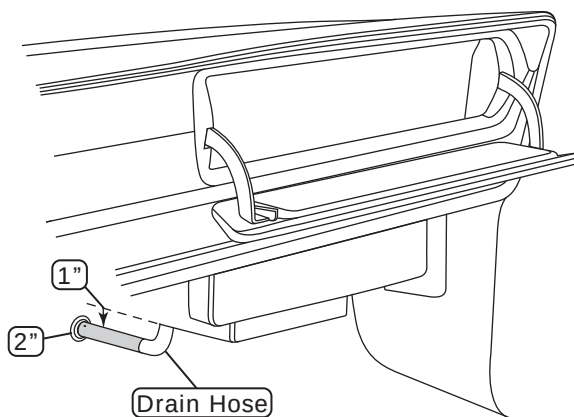

Figure 1
1. Locate the #8 compressor A/C hose. Lubricate (2) #8 O-rings (See Lubricating O-rings, Page 10), and connect the 90° female fitting to the #8 discharge port on the compressor. Then route the straight female fitting with R134a service port to the #8 condenser hardline coming over the core support. Tighten each fitting connection.
2. Locate the #10 compressor A/C hose. Lubricate (2) #10 O-rings (See Lubricating O-rings, Page 10), and connect the 45° fitting to the #10 suction port on the compressor. Then route the 45° female fitting with R134a service port to the #10 hardline on the inner fender cap. Lubricate (2) #10 O-rings (See Lubricating O-rings, Page 10), and connect the 90° female fitting in the wheel well to the #10 hardline on the inner fender cap. Then route the straight female fitting from the inner fender cap to the #10 fitting on the evaporator (See Figure 1a, Page 13 and Figure 1, Page 16). Tighten each fitting connection.
3. Locate the #6 evaporator A/C hose. Lubricate (2) #6 O-rings (See Lubricating O-rings, Page 10), and connect the straight female fitting to the #6 hardline coming over the core support from the drier. Then route the straight female fitting to the #6 hardline on the inner fender cap. Lubricate (2) #6 O-rings (See Lubricating O-rings, Page 10), and connect the 90° female fitting in the wheel well to the #6 hardline on the inner fender cap. Then route the 90° female fitting from the inner fender cap to the #6 fitting on the evaporator (See Figure 1a, Page 13 and Figure 1, Page 16). Tighten each fitting connection.